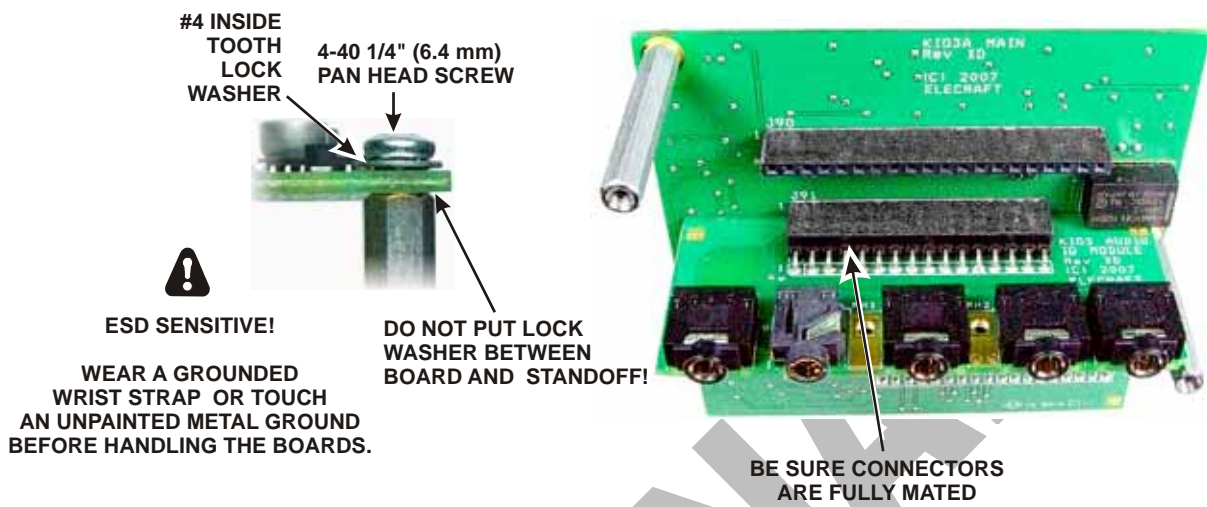

Figure 31. Preparing the KIO3 Board for Installation.
□ Mount two 1-1/4" (31.8 mm) standoffs in the two holes at the corners of the of the KIO3 board as shown in Figure 31. **Do not put lock washers between the standoffs and the board.**
□ Plug the Audio I/O daughter board into J91 as shown in Figure 31. The second daughter board will be installed later.